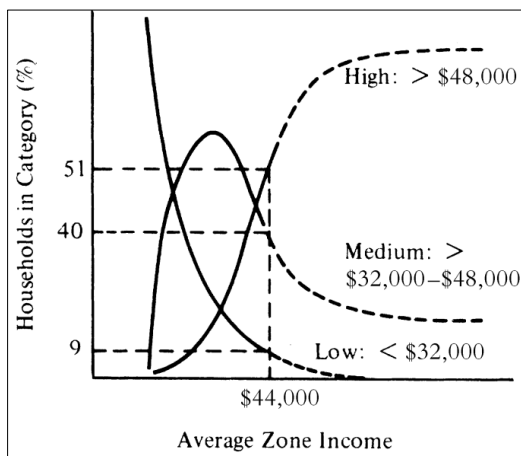

Figure 12.2
- ↪ Determine the **number of trips per day** generated in this zone for each trip purpose, assuming that the characteristics depicted in **Figures 12.2 through 12.5** apply in this situation.